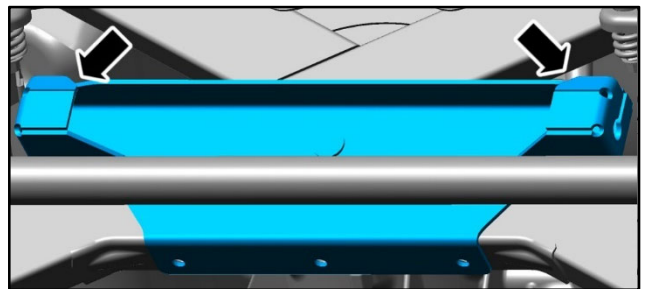

Figure 2
- If the bracket is the same as Figure 2, no additional work is necessary. Go to Part B.